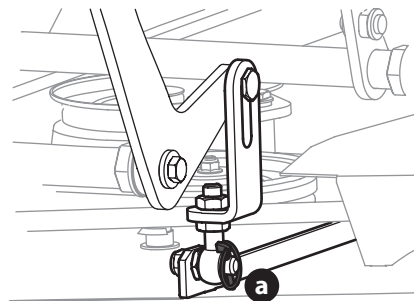

Fig. 50
4. Remove the four lynch pins (a) that secure the deck to the deck lift assembly (Fig. 50).